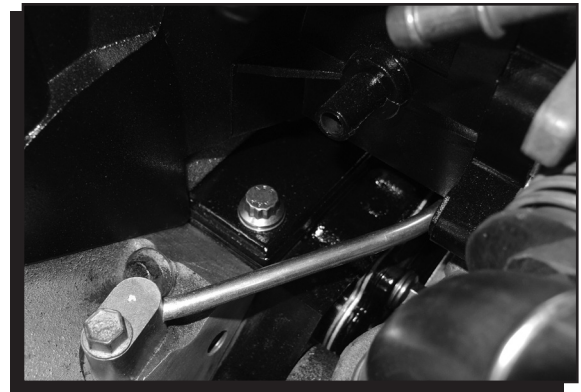

Figure 13 Front Water Vent Line.
- The OEM 4 corner water vent line that runs under the intake cannot be used. MSD recommends using a newer water vent line that connects the front two ports on the heads (Figure 13). The two rear ports can be plugged.